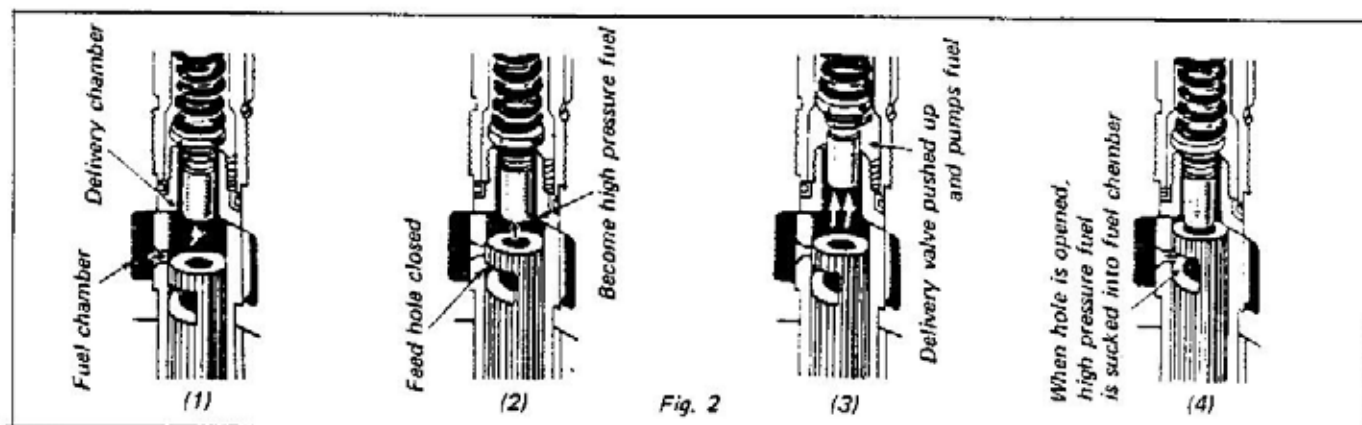

Fig. 2
i. When the plunger is at bottom dead center, the fuel flows from the fuel chamber through the feed hole as shown in Fig. 2(1) into the pump cylinder.
ii. The camshaft turns and the plunger rises. When the upper surface of the plunger is the same as the upper tip of the feed hole, fuel is started to be sent under pressure (Fig. 2, (2)). When the plunger further rises thereafter, the fuel opens the delivery valve, and is sent to the high pressure pipe and the nozzle, Fig. 2(3).
iii. The plunger rises further, and when the starting control group and the feed hole is aligned, as shown in Fig. 2(4), the high pressure fuel at the top of the plunger flows through the hole in the central part of the plunger, through the control group, feed hole and is sent back to the fuel chamber. The pressure then is decreased and the sending of fuel under pressure is completed.